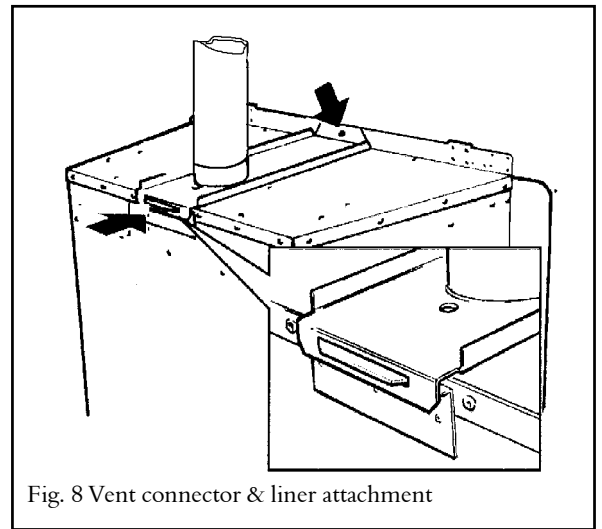

Fig. 8 Vent connector & liner attachment
- 7.2.1 Secure the collar on the vent connector unit to the 3" diameter chimney liner (Fig. 8).
- 7.2.3 Pull the vent connector towards the front of the fireplace and locate the rear slot in the plate on the lip at top rear of the appliance case. Fix the front of the vent connector plate to the appliance case top using the screw previously removed (Fig.8).